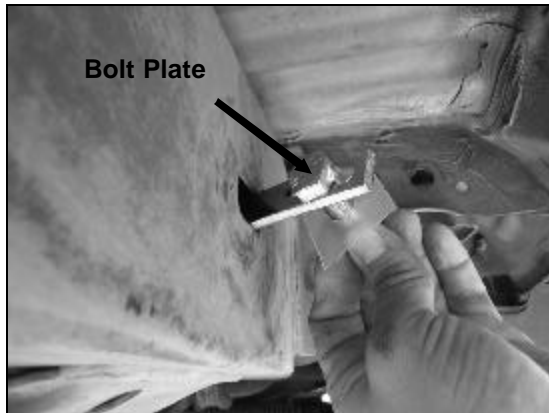

Figure 3
- From underside of vehicle, locate the factory rectangular hole in the frame towards the front of the vehicle and insert (1) 12mm Bolt Plate (**Figure 3**).